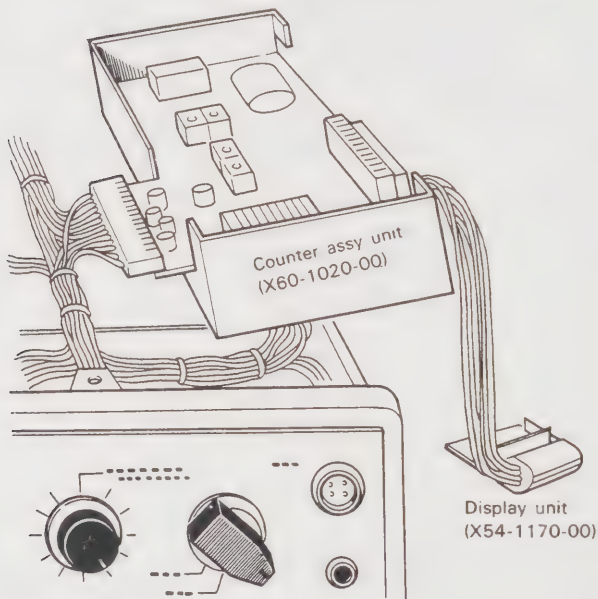

Fig. 16
- 2) When checking each voltage, attach the printed circuit boards, as shown in **Fig. 16**.